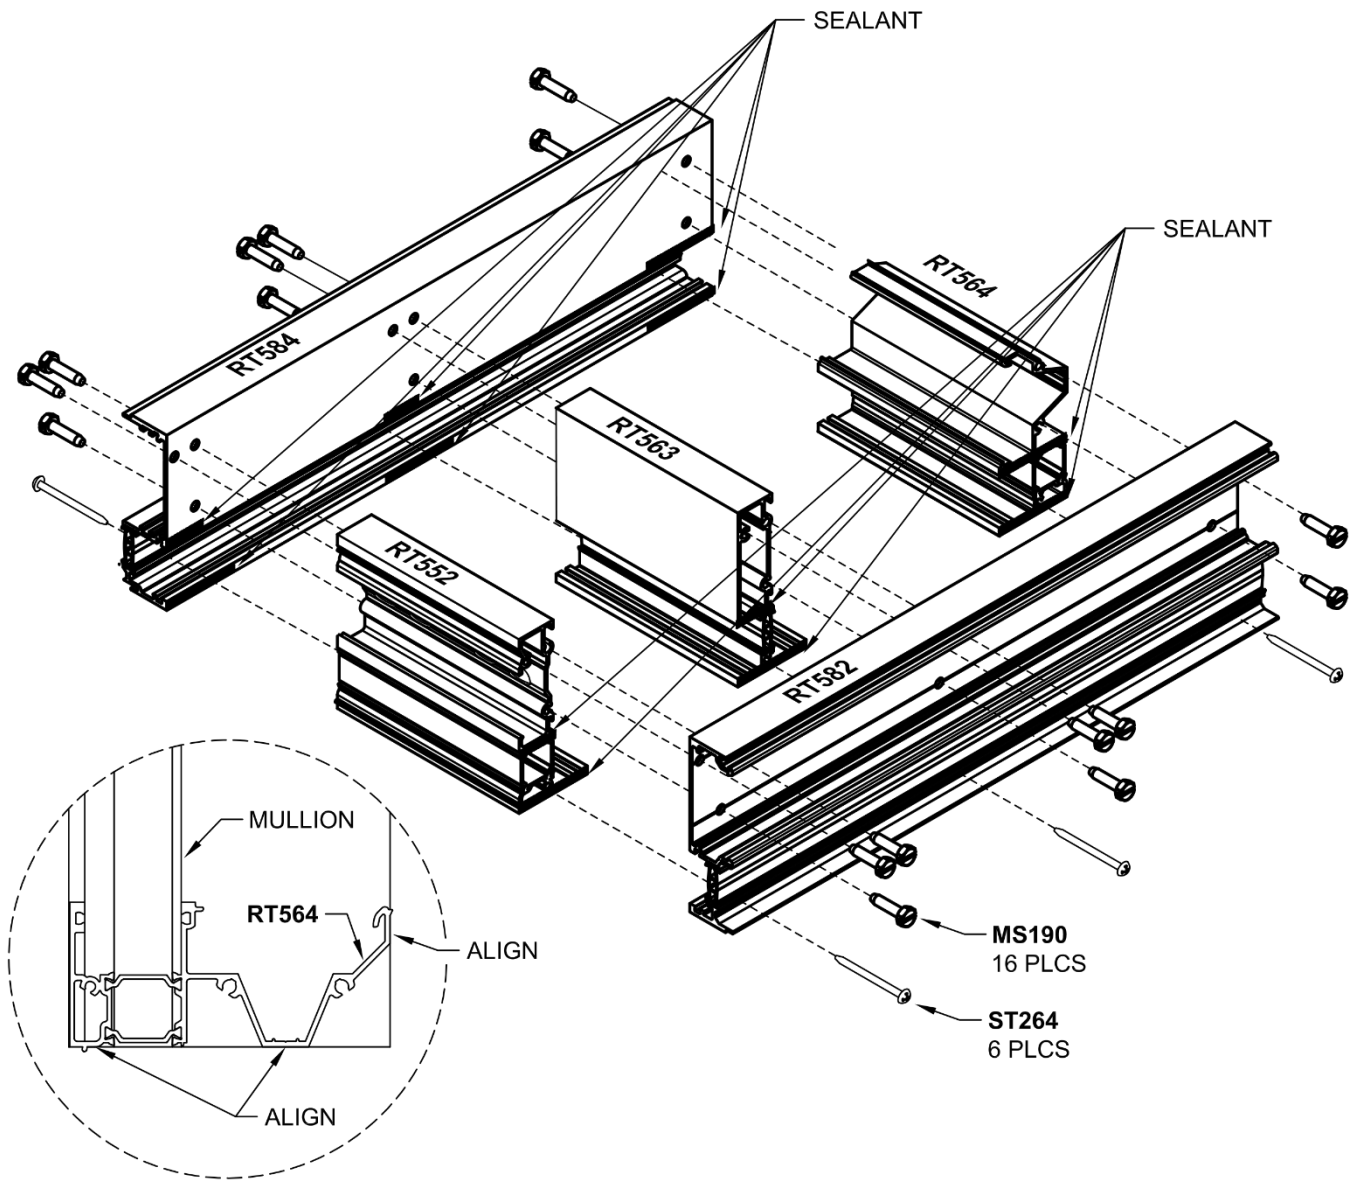

Figure 33: Pre-Glazed Captured Assembly
- 12.2.8 To ensure a proper fit into the Sill Receptor, align Sill to Vertical at the interior edge and the bottom, as shown in *Figure 33, Detail A*.
- 12.2.9 Attach Horizontals to Verticals using **MS19042** fasteners and **ST26442** fasteners, referencing *Figure 33*.